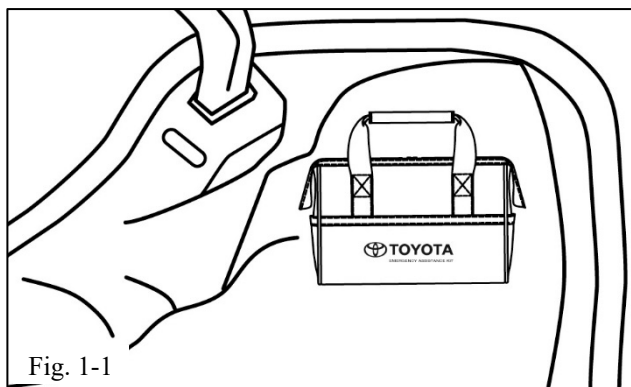

Fig. 1-1
- (1) Place the Emergency Assistance Kit in the trunk/cargo area of the vehicle (Fig. 1-1).